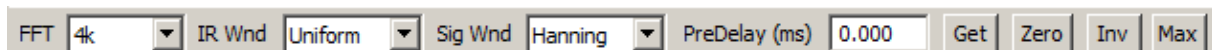

Figure 6.3 Dialog bar of the Impulse response window
2. If the marker is not active then the *gate* is determined as part of an impulse response that starts at the cursor position and has the length equal to the length of the current FFT. To set the current FFT length, you can use the dialog bar (Fig. 6.3) or activate the '**Impulse Response Analysis Setup**' dialog box.